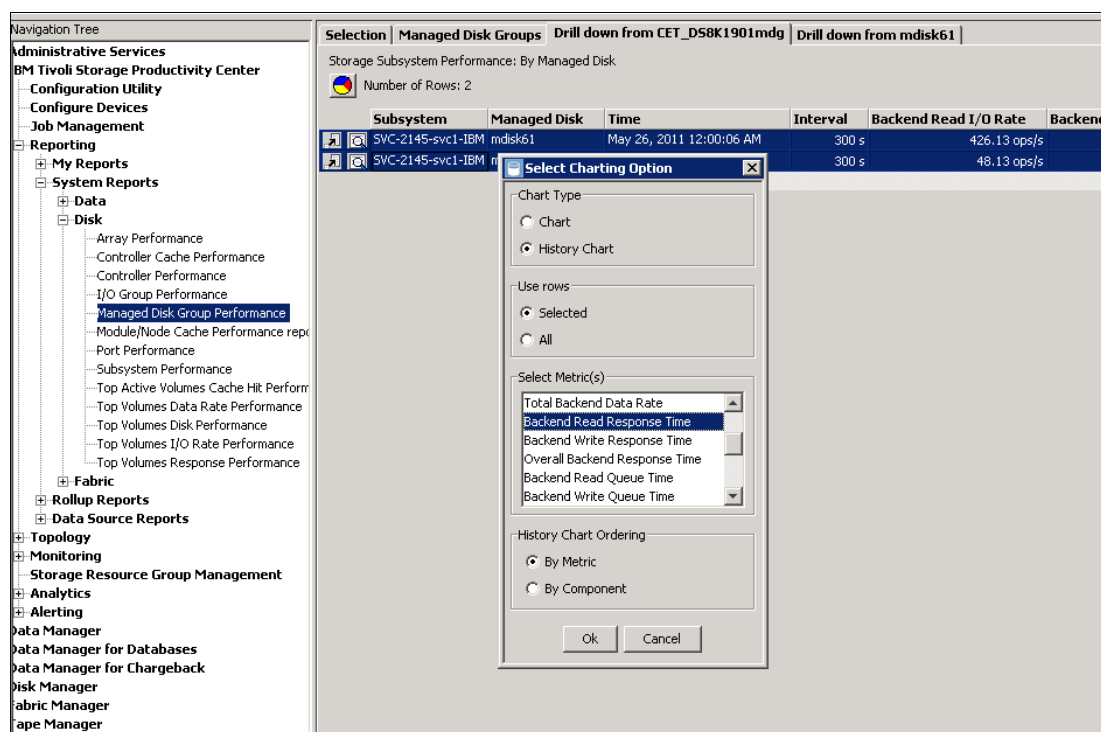

Figure 13-64 Backend Read Response Time for the managed disk
1. In the drill-down menu from the Select Charting Option click on Backend Read Response Time, as shown in Figure 13-64.